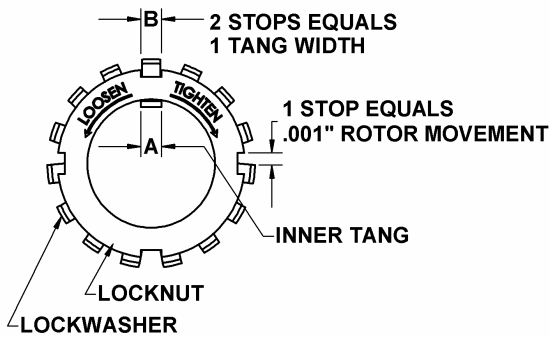

Figure 7 – Locknut Assembly
It is important that the bearing locknuts (24A) and lockwashers (24B) be installed and adjusted properly. Overtightening locknuts can cause bearing failure or a broken lockwasher tang. Loose locknuts will allow the rotor to shift against the discs (71), causing wear. See Figure 7.
- Tighten both locknuts (24B) to ensure that the bearings (24) are bottomed in the head recess. DO NOT overtighten and bend or shear the lockwasher inner tang.
- Tighten the opposite locknut (24A) by hand until it is snug against the bearing (24). Then, using a spanner wrench, tighten the nut the width of one lockwasher tang "B". Tighten just past the desired tang, then back off the nut to align the tang with the locknut slot. Secure the nut by bending the aligned lockwasher tang into the slot in the locknut. The pump should continue to turn freely when rotated by hand.
16. Inspect the grease seal (104) for wear or damage and replace as required. Grease the outside diameter of the grease seal and push it into the inboard bearing cover (27) or bracket mount (108) with the lip of the seal inward (towards the pump).
- Attach a new bearing cover gasket (26) and the inboard bearing cover (27) to the inboard head (20). Install the outboard bearing cover (27A) and a new gasket to the outboard head. Make sure the grease fittings (76) on the bearing covers are accessible. Install and torque the bearing cover capscrews (28) to 8 lbs ft (10.8 Nm).
- On flange mounted pumps, the bracket mount takes the place of the inboard bearing cover (27). To attach the bracket mount to the head, install a new bearing cover gasket (26) and the four mounting screws (28A).